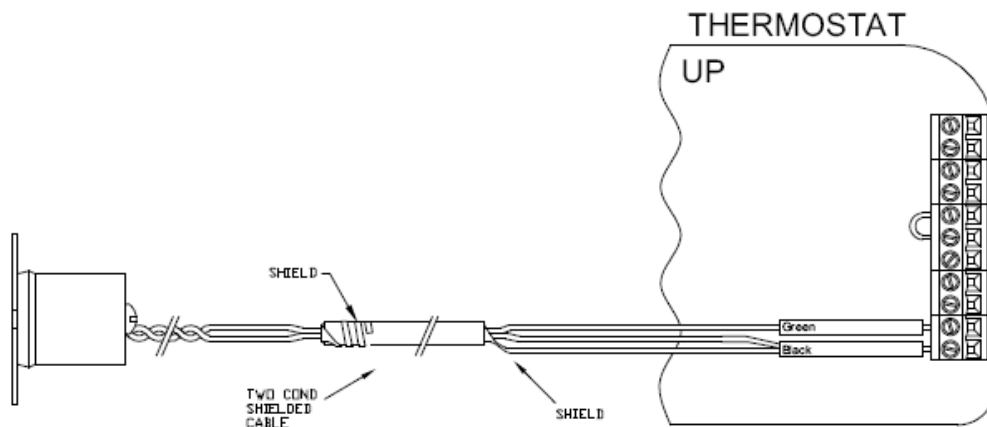

Figure 13 – Connections to a Remote Temperature Sensor
Make the connections to the Green and Black terminals under the section marked "Remote Temp Sensor" on the right terminal strip - See *Figure 13*.
1. When connecting a remote temperature sensor, the shield and one of the wires from the remote temperature sensor are tied together and get connected to the Black terminal – See *Figure 13*.